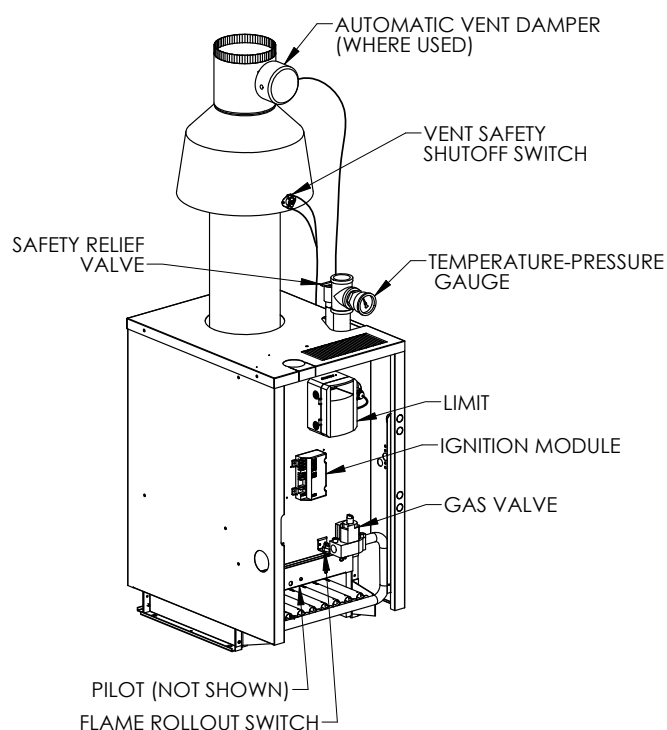
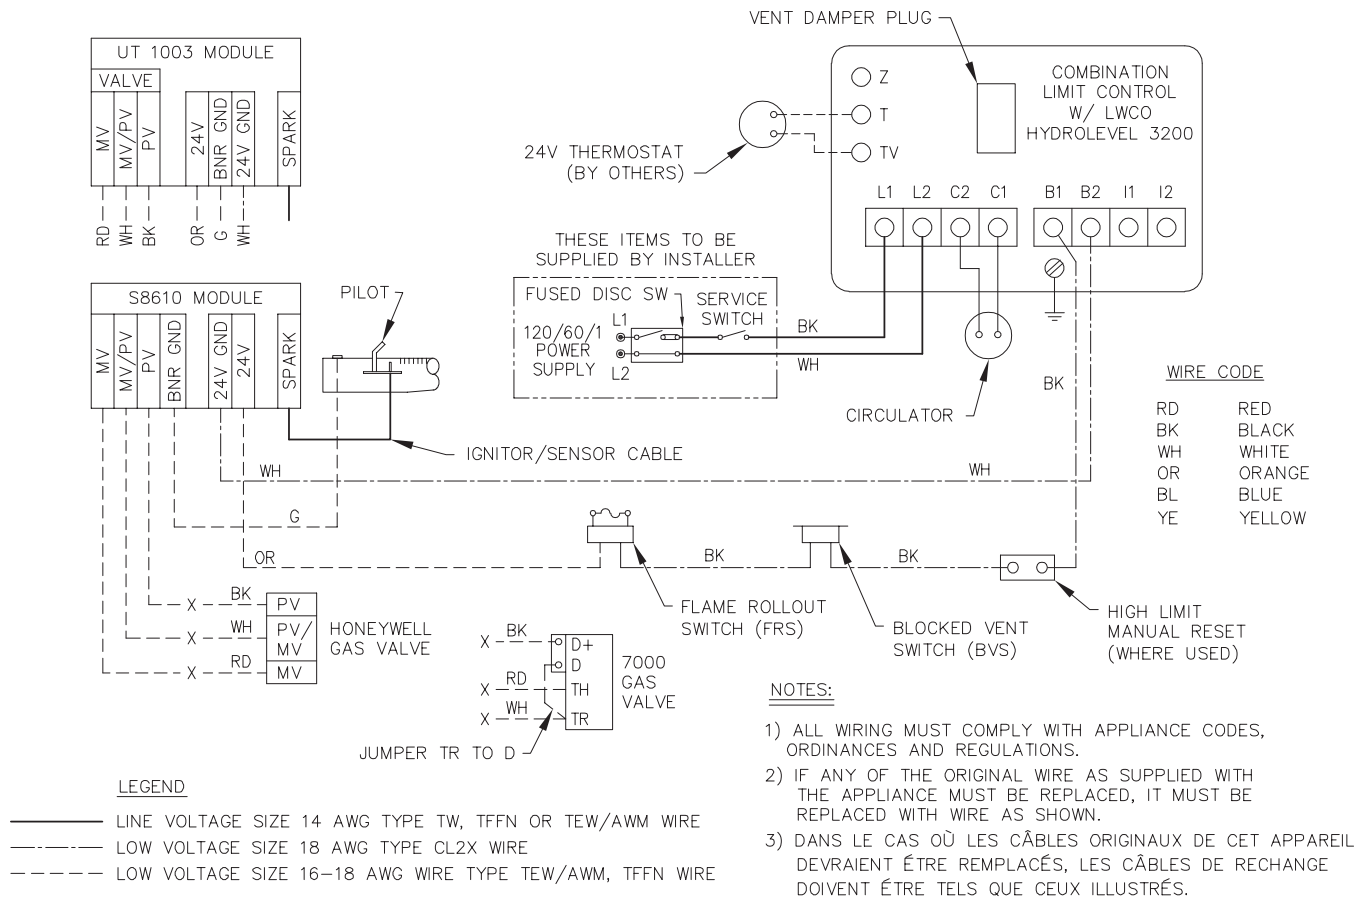

Figure 6.1: Wiring Details
Figure 6.2: Wiring Diagram, Spark Ignited Pilot, Hydrolevel 3200 Limit control
1. See Figure 6.1 for location of wiring and controls. Use Figure 6.2 to connect the boiler to a power supply and then connect components to the boiler.
3. Connect the vent damper harness to the polarized connector in the limit control – see Figure 6.1 and vendor instructions.